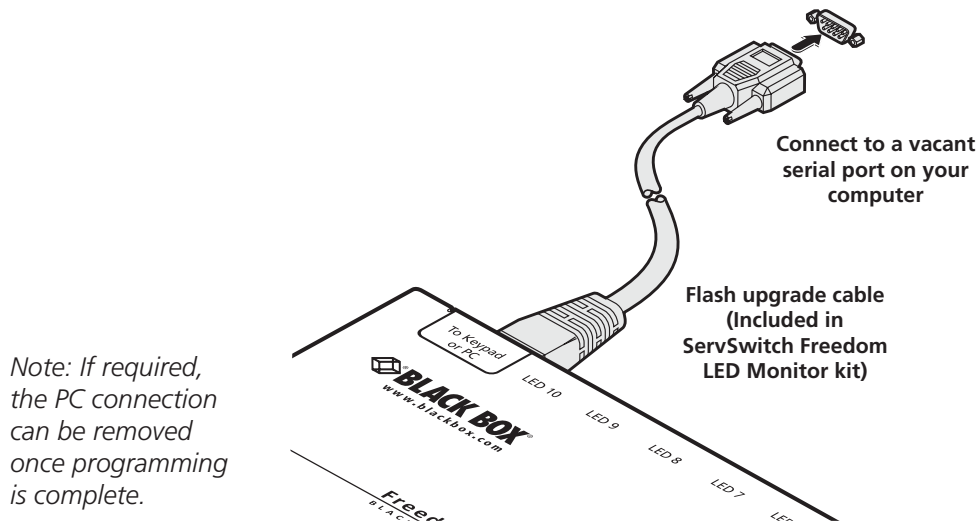

Figure 3-11. Linking the ServSwitch Freedom LED Monitor module to the serial port of a computer.
3. You need to tell the ServSwitch Freedom LED Monitor which LED indicator to illuminate (and in which color) for each channel. To do this connect your computer to the **TO KEYPAD OR PC** port of the ServSwitch Freedom LED Monitor module (while it remains connected to the ServSwitch Freedom switch). Please see the section 4.5 Configuring LED indicators. See Figure 3-11.